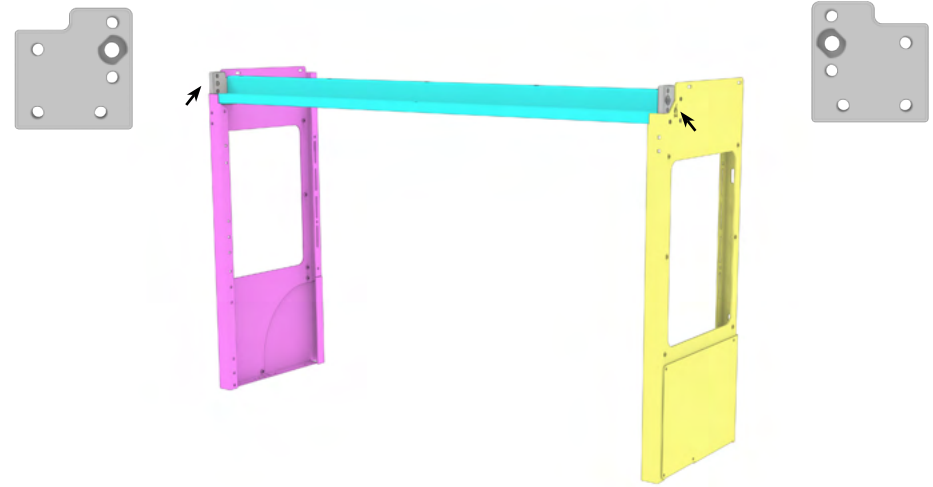

FIG 35
**NOTE -** Notice that the **Hinge Plates** are **directional**. See FIG 35 for the orientation of the left and right side plates.